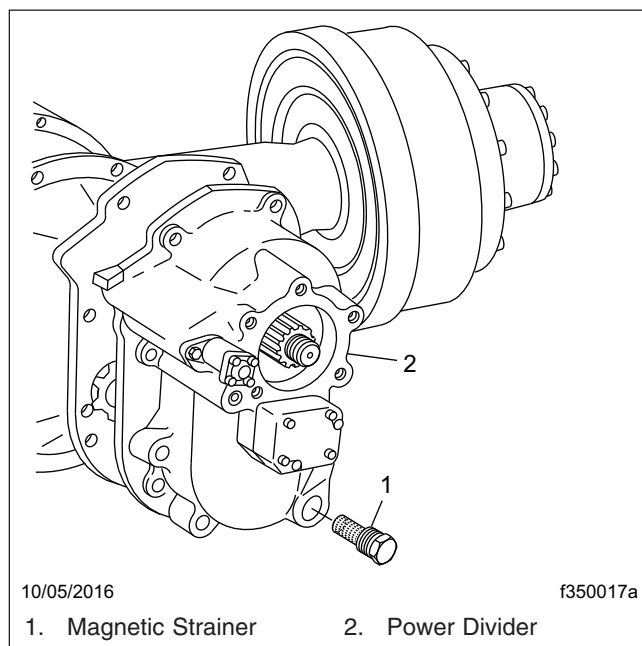

Fig. 5, Dana Spicer Tandem Drive Axle Magnetic Strainer
4. At each axle oil change, remove and clean the magnetic strainer, if equipped. See **Fig. 5**.